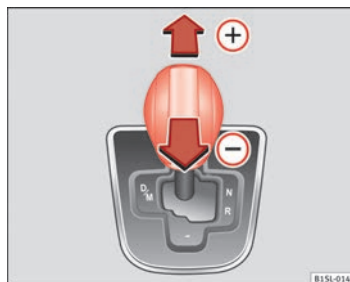

Fig. 89 Lever in the Tiptronic position
- Press the lever forwards  or backwards  to move up or down a gear ⇒ Fig. 89.